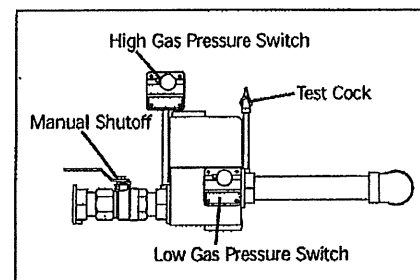
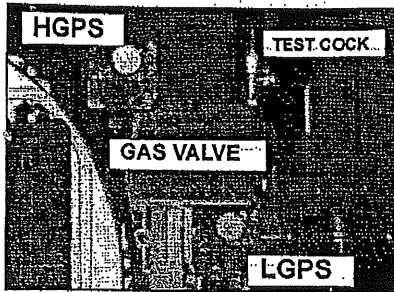

Figure 1-5 Standard Gas Train, CSA and ASME CSD-1
Figure 1-6 Standard Gas Train Components per CSA and ASME CSD-1
3. Burner Gas Train (See Figure 1-5 & Figure 1-6)